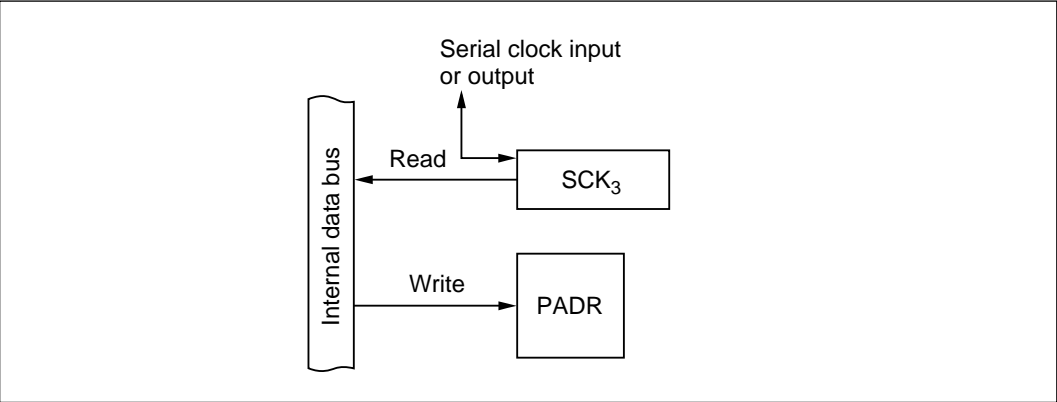

Figure 10-72 SCK₃ Pins (Modes 1, 2, 4, 6, and 7)
(10) SCK₃ Pin (PA₃: Modes 1, 2, 4, 6, and 7) (H8/539 Only): Figure 10-72 shows a block diagram illustrating the SCK₃ input/output function. Table 10-56 indicates register read/write data. When PA₃ is used for SCK₃ input or output, the value written in PADR is ignored, but PADR can be read to monitor the level at the SCK₃ pin.